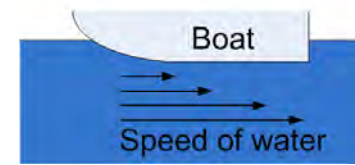

**Fig. 6.1** Sea valve alignment (from installation manual).
- **Sea valves** have a mark on the top flange (Fig. 6.1).